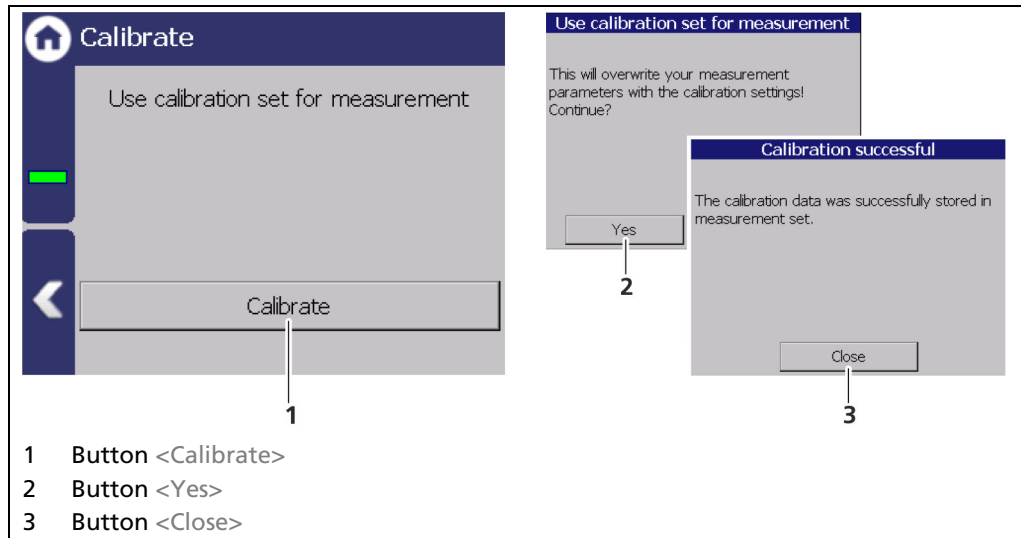

Fig. 69 Calibrate
- Click on the button <Edit 1. Point > (Fig. 69, item 2).
- The window "Edit calibration point" (Fig. 69, item 7-9) opens.
- Click on the input field "Read-In time" (Fig. 69, item 9) to open the input field.
- ▶ The measuring process (Fig. 69, item 10) begins and the count rate is transferred to the count rate field (Fig. 69, item 8)
- 6. Click on the button <Calc. 2. Point > (Fig. 69, item 4).
- ▶ The "Calc. 2nd point" window (Fig. 69, item 11-14) opens.